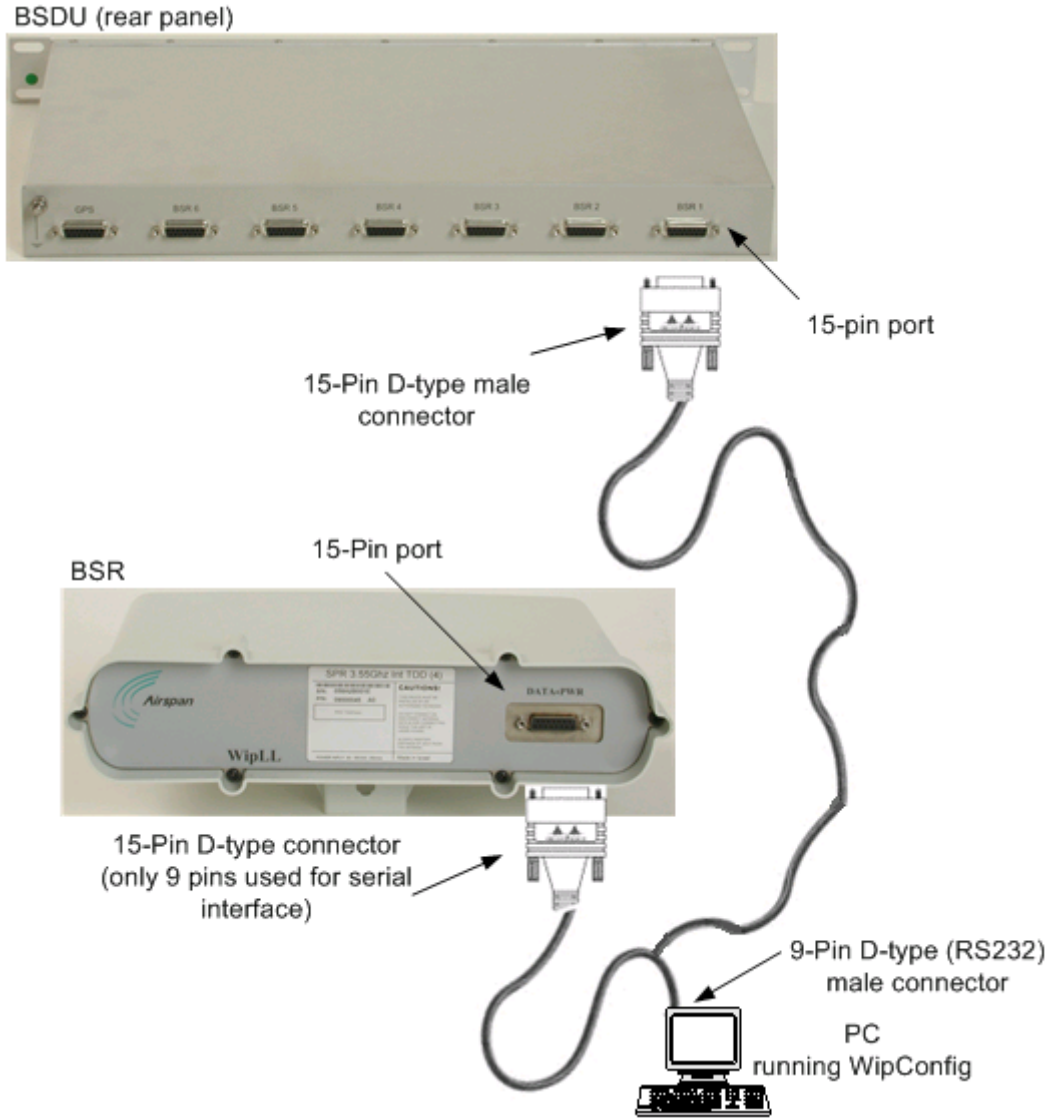

Figure 4-5: PC-to-BSR Serial Connection using Y-shaped Cable
1. Connect the **15-pin D-type male** connector, at the one end of the Y-cable, to the BSR, as displayed in Figure 4-5.
2. Connect the **15-pin D-type male** connector, at the other end of the Y-cable, to the SDA or BSDU, as displayed in Figure 4-5.
3. Connect the **9-pin D-type (RS232)** connector, at the other end of the Y-cable, to the PC, as displayed in Figure 4-5.